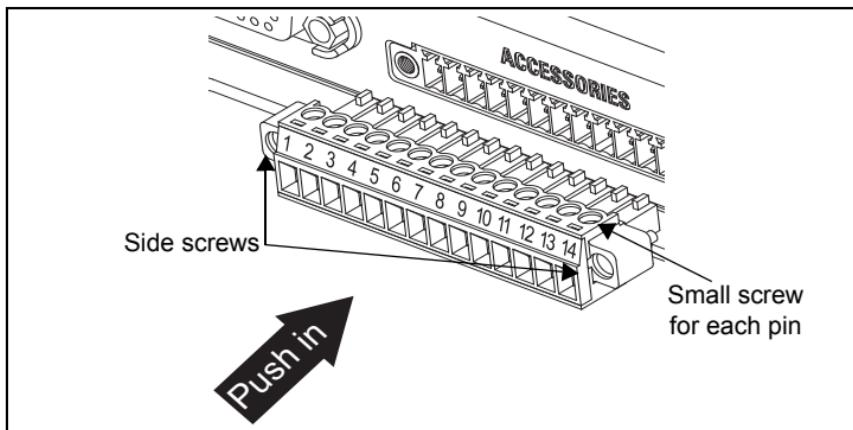

Figure 10: Accessories Plug Installation
- Screw in the small screw for each pin after wire is inserted to ensure it is securely fastened. See Figure 10.